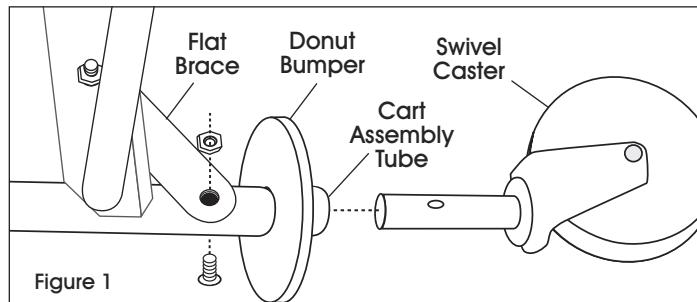

Figure 1
1. Remove bolt from flat brace on the cart assembly tube side. Loosen other bolt if necessary. (See Figure 1)